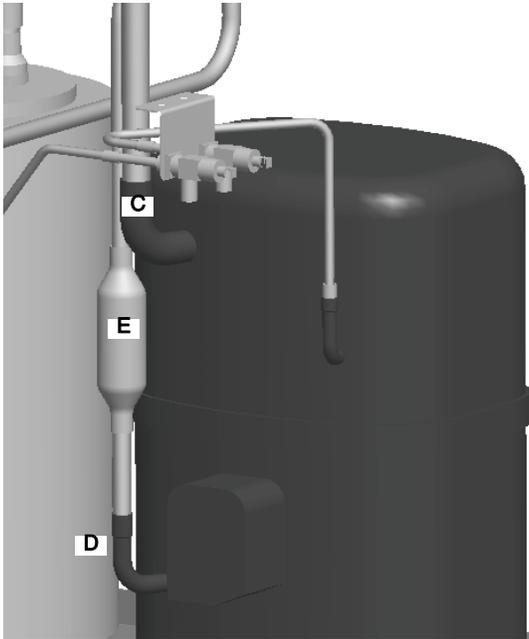

Figure 35.
38. Secure the insulation away from the joints in order to braze the compressor suction inlet (C) and the compressor discharge (D) lines (FIGURE 35).